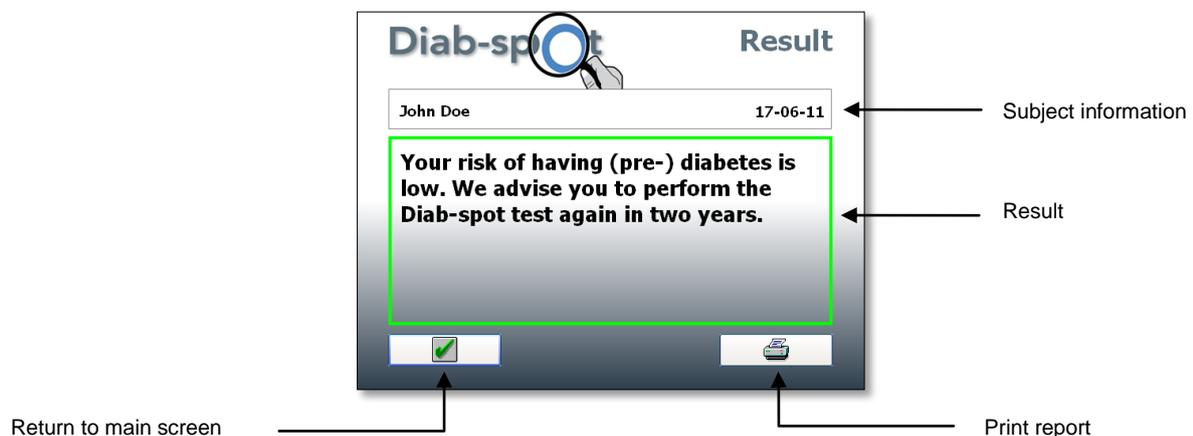

Figure 19. Negative result screen
1. The risk of having (pre-) diabetes is low repeat Diab-spot test in 2 years (figure 19).